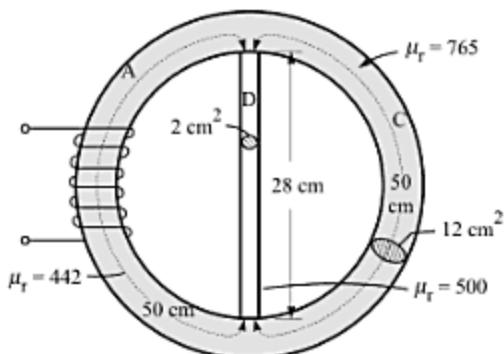

Fig. B-12
- B-70.** A circular soft iron ring with a cross-bar of silicon steel fitted into it is shown in Fig. B-12 with the relevant data mentioned. Estimate the required ampere turns to be applied to one-half of the ring to produce a flux density of 1.5 Wb/m^2 in the other half.